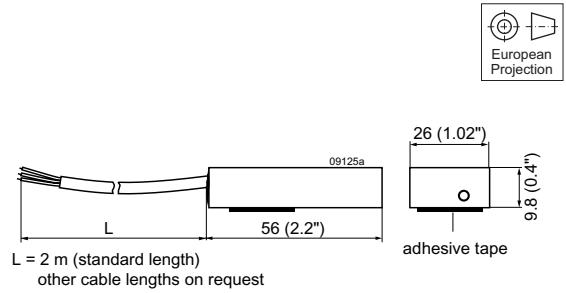

Fig. 32
- Different battery sensors S-KSMH... for using the converter as a battery charger. Different cell characteristics can be selected; see fig. 32, table 12, and *Battery Charging/Temperature Sensors*.